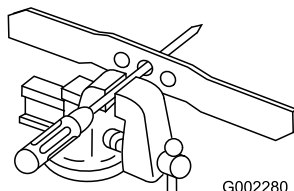

Figure 36
1. Check the balance of the blade by placing the center hole of the blade over a nail or screwdriver shank clamped horizontally in a vise (Figure 36).